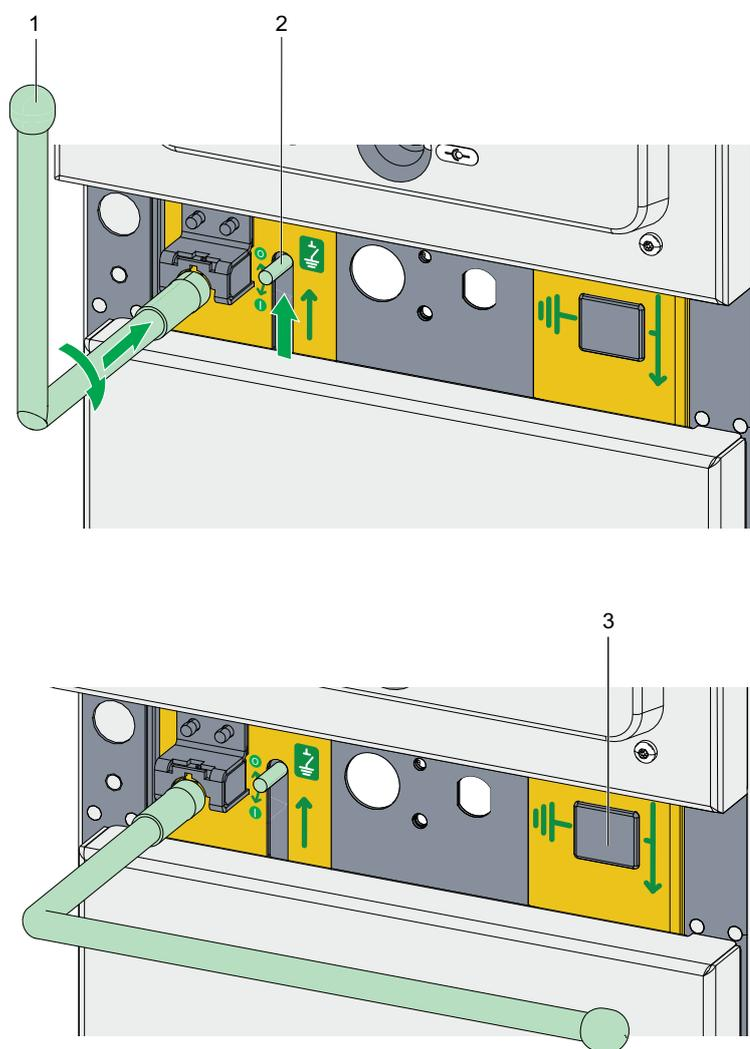

Figure 47
1. Push the slider (2) upwards and insert the handle (1) to the E/S with the handle rod pointing up. Refer to the Figure 47.
2. Turn the E/S handle (1) clockwise by approximately 95°.
3. Check position indicator (3). Make sure that the E/S is ON.
4. Remove the E/S handle (1), and place it back into the transport trolley.